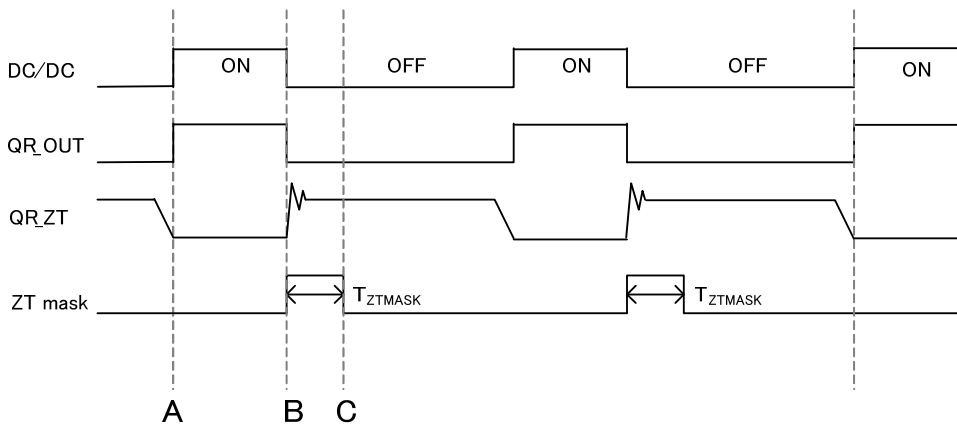

Figure 15. QR\_ZT Trigger Mask function
**(6-4) ZT Trigger Mask Function (Figure 15)**
When MOSFET is switched from ON to OFF, surge noise may occur at the QR\_ZT pin. Then, the ZT comparator and ZTOVP comparator are masked for the TZTMASK time to prevent ZT comparator operation errors. (Figure 15)